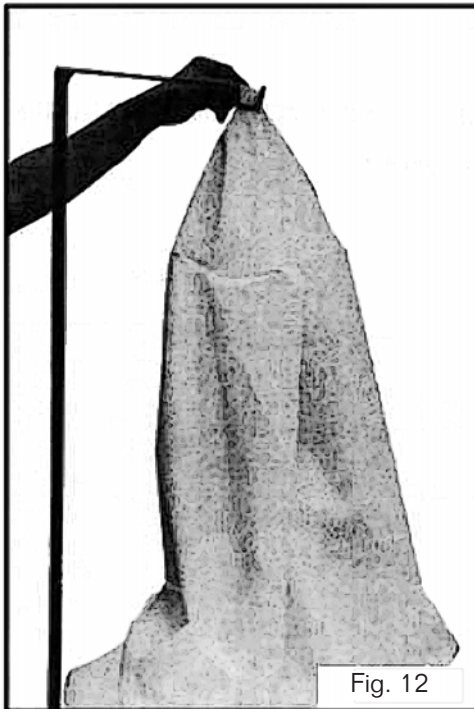

Fig. 12
10. After the bags are secured, the upper bag should hang from the upper bag support as in figure 12.